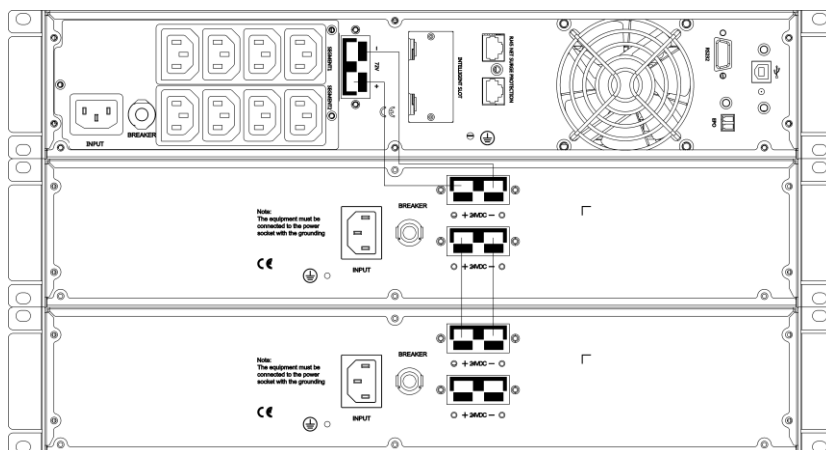

Figure 8 The installation for UPS and battery box
- **The installation between UPS and External battery boxes can be referred to Figure 8**
- (1) Remove the ups & external Battery boxes Battery Terminal cover plate
- (2) Remove the standard battery connection cable from the battery box
- (3) Connect the corresponding voltage battery box according to the UPS battery voltage
- (4) External Battery Supports up to 4 PCS